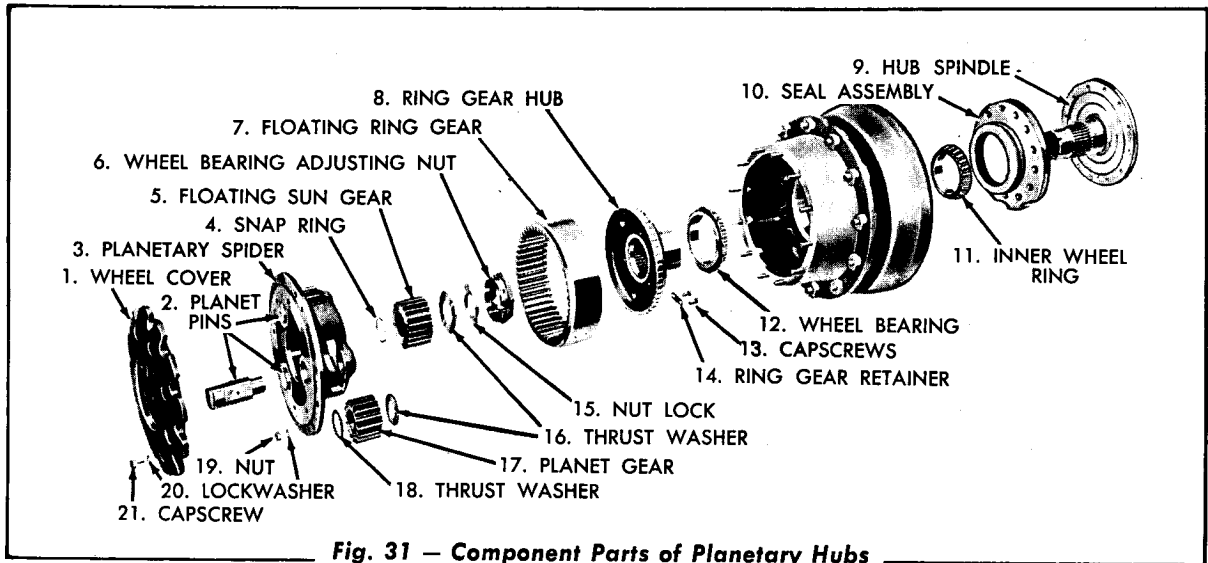

Fig. 31 — Component Parts of Planetary Hubs
- b. Remove the planet gears and their respective thrust washers (Fig. 31).